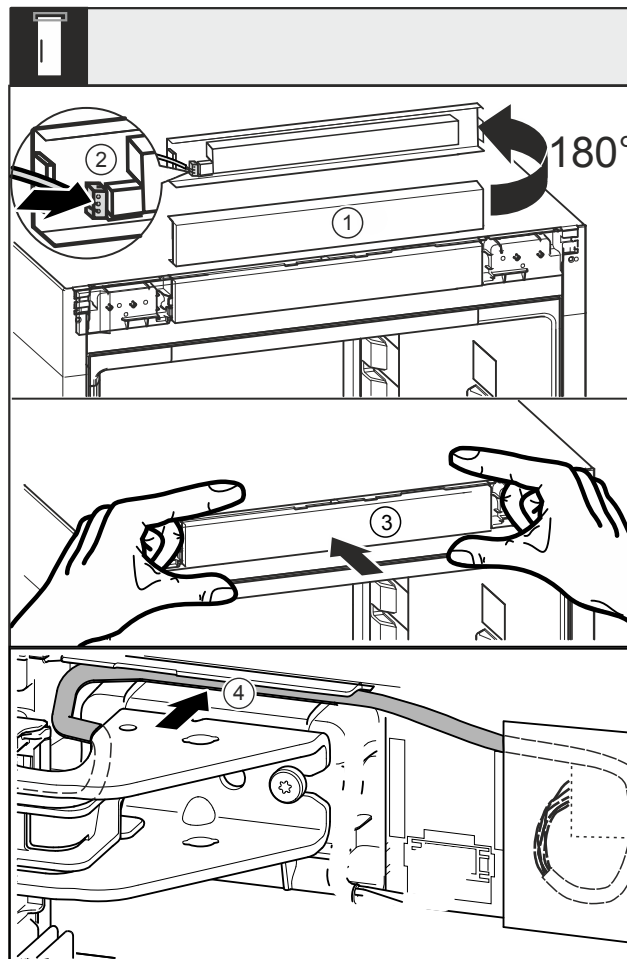

Fig. 32
- Turn the trim Fig. 32 (1) up by 180°.
- Engage the plug Fig. 32 (2) on the control panel trim.
- Re-engage the trim Fig. 32 (3) on the appliance.
- Lay the cable carefully in the guide Fig. 32 (4) above the top swap bearing block.